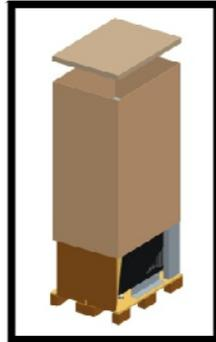

Fig. 2-2
3. With the help of an assistant, carefully lift the heavy cardboard container straight up until it is clear of the UPS. (Fig. 2-2)